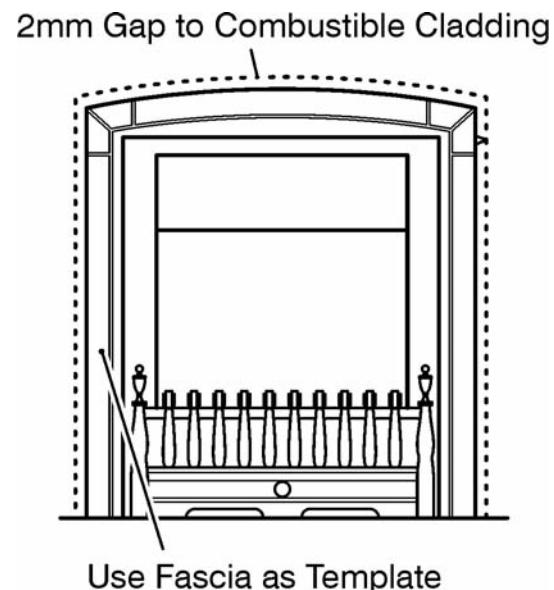

Figure 1. Removal of combustible cladding (Shown with the 'Dream' fascia).
3.7.4 If the appliance is to be fitted against a wall with combustible cladding, the cladding must be removed from the area covered by the fascia. The cladding must also not touch the fascia (See figure 1). We suggest that the actual fascia is used as a template to mark the area for combustible cladding removal and that this area is increased by at least 2mm all round.